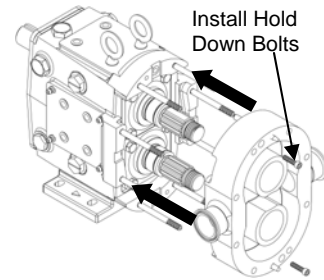

Figure 61: Installing Pump Body
1) Make sure all seal components are installed by following “Seal Maintenance” instructions provided on pages 18-20. Ensure all dowels are in place and that all parts including body, rotors, and jam nuts are clean and free of foreign matter. Slowly slide the body over the gear case studs and shafts, ensuring the seals are kept in place and not damaged (Figure 61). Install the two hold down bolts and tighten the body against the gear case to ensure the dowels are engaged. Rotate the shafts to make sure there is no interference with the seals.